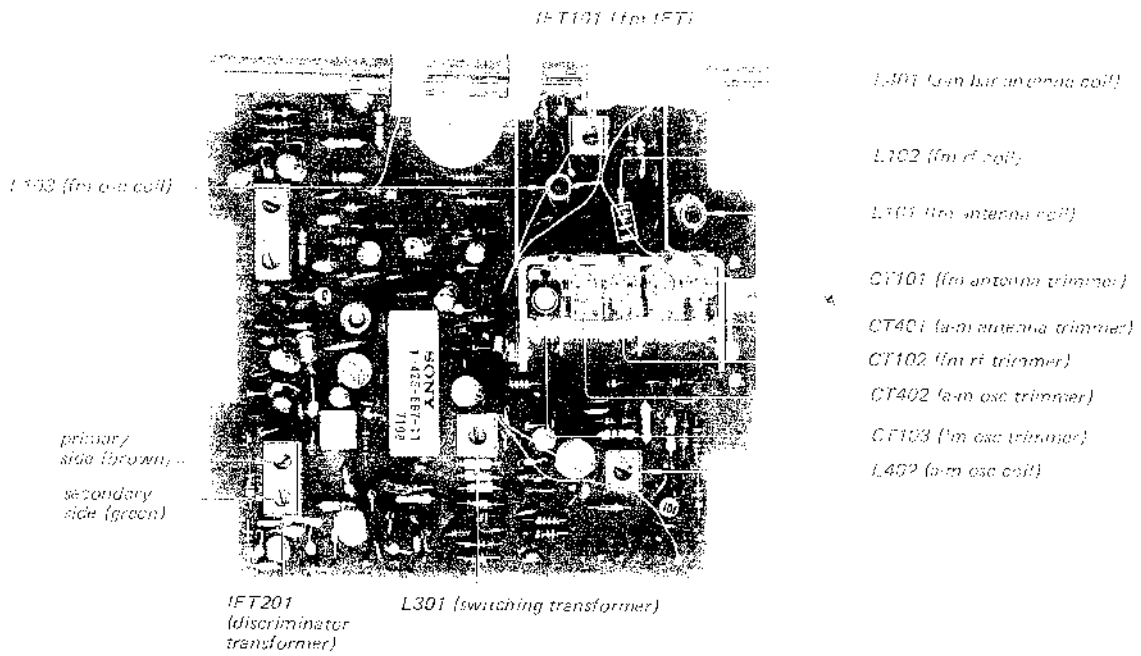

Fig. 3-11. *Adjusting parts location*
5. Turn the secondary side core (green) of discriminator transformer IFT201 (see Fig. 3-11) with an alignment tool to obtain a minimum indication on the oscilloscope as shown in Fig. 3-6.
7. Turn the core of fm IFT101 and primary side core (brown) of discriminator transformer IFT201 (see Fig. 3-11), to obtain the maximum output.
2. Precisely tune the receiver to the SSG's carrier frequency then turn the top core of switching transformer L301 (see Fig. 3-11) to obtain maximum output at the left channel.
5. The output-level to residual-level ratio represents the separation. Turn the top core of switching transformer L301 (see Fig. 3-11) for minimum residual level. Check the right channel for separation.